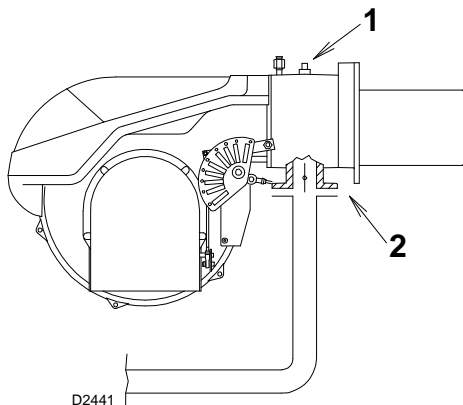
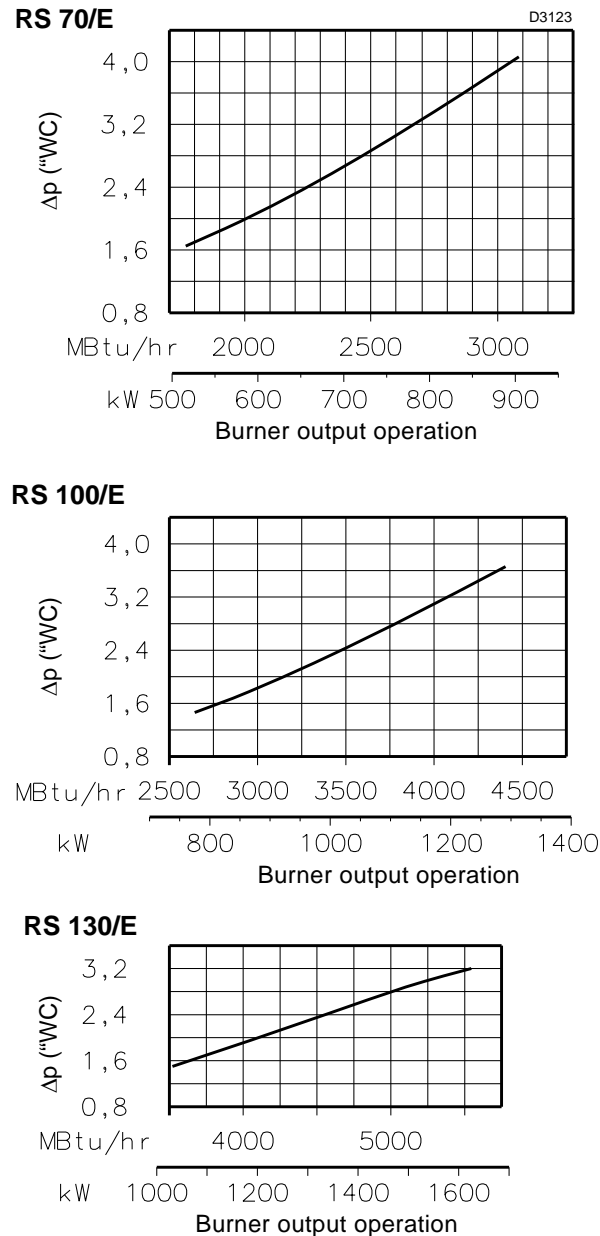

Fig. 21
Fig. 22
The diagram (Fig. 22) show minimum load losses at combustion head depending on the maximum burner output operation with natural gas (G 20).
Gas pressure is measured at the test point 1)(Fig. 21), with:
- subtract the combustion chamber pressure from the gas pressure measured at test point 1)(Fig. 21);
- find, in the diagram (Fig. 22) the pressure value closest to the result you want;
- Gas pressure at test point 1)(Fig. 21) = 3.15 "wc
To know the required gas pressure at test point 1) (Fig. 21), set the maximum output required from the burner operation, then:
- read, on the diagram (Fig. 22), the pressure test point 1) (Fig. 21);
pressure required at pressure test point 1)(Fig. 21).
Δp "wc gas butterfly 2)(Fig. 21)